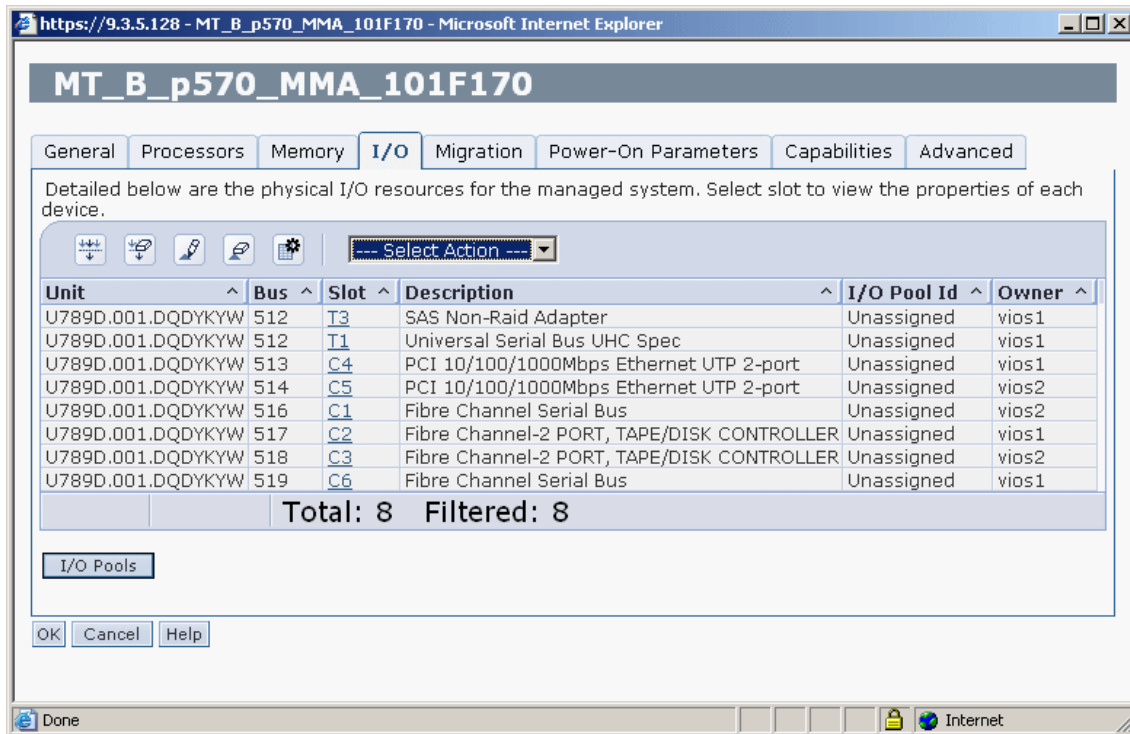

Figure 12-11 I/O adapter properties for a managed system
3. Select the **I/O** tab on the window that is displayed, as shown in Figure 12-11. You can see each I/O adapter for each partition.